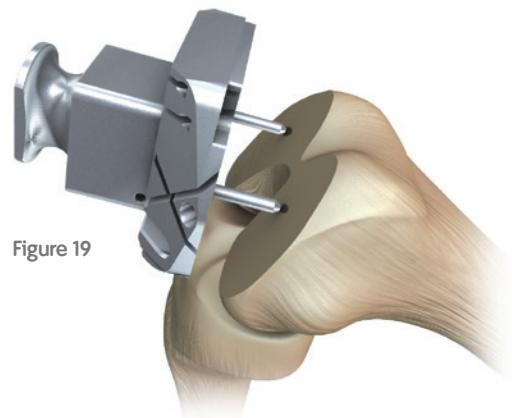

Figure 19
- 1 Position the spikes on the DCF AP Femoral Block into the predrilled holes (Figure 19). Use the Mallet to impact the AP Block assembly until the block is flush with the resected distal femur. Remove the AP Block Impactor.